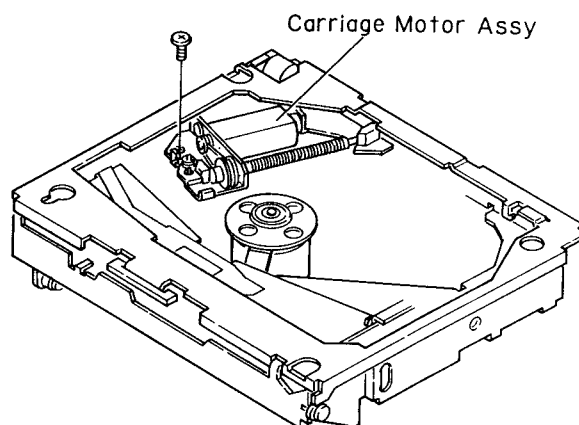

Fig. 12
11. Remove the screw, and then remove the carriage motor assy.(Fig.12)